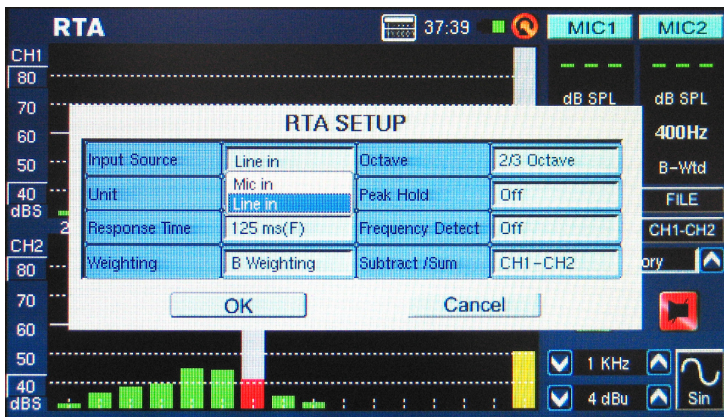

figure 27
- Enter the SET menu and set the input source to “Line” and measurement unit to “dBu,” “dBV,” or “voltage,” as required (see figures 27 and 28).